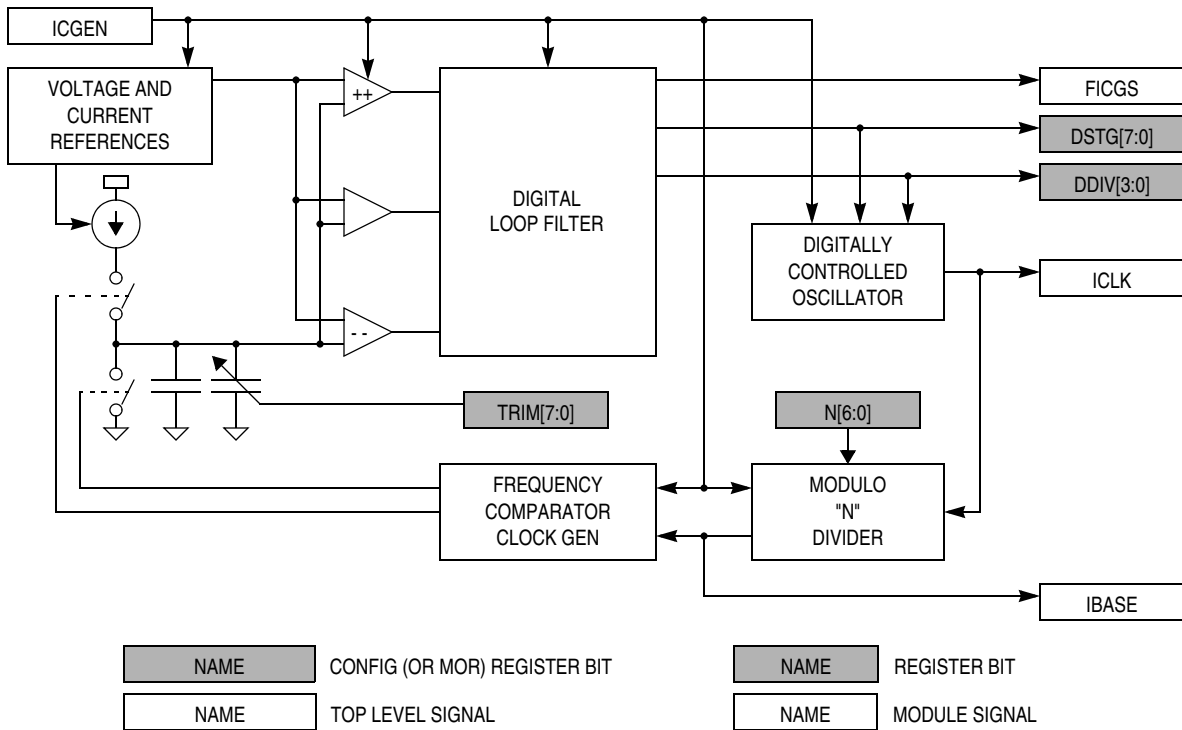

Figure 7-2. Internal Clock Generator Block Diagram
The ICG, shown in **Figure 7-2**, creates a low frequency base clock (IBASE), which operates at a nominal frequency ( $f_{NOM}$ ) of 307.2 kHz  $\pm$  25%, and an internal clock (ICLK) which is an integer multiple of IBASE. This multiple is the ICG multiplier factor (N), which is programmed in the ICG multiplier register (ICGMR). The ICG is turned off and the output clocks (IBASE and ICLK) are held low when the ICG enable signal (ICGEN) is clear.